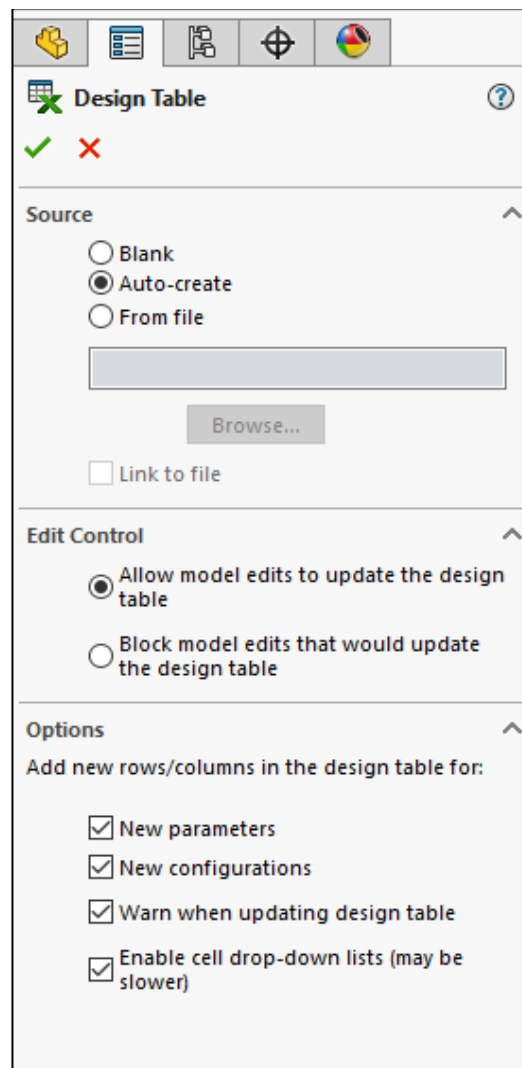

Figure 22 – Creating a *Design Table*
To create a *Design Table*, select the tab in the main menu, then *Tables*, then *Design Table*  (note that the *Excel* logo is superimposed on the icon). In the *PropertyManager* tab *Source* appears (Fig. 22):
– *Auto-Create* automatically creates a new parameter table and loads all configured parameters and their associated values from the part (Fig. 22).